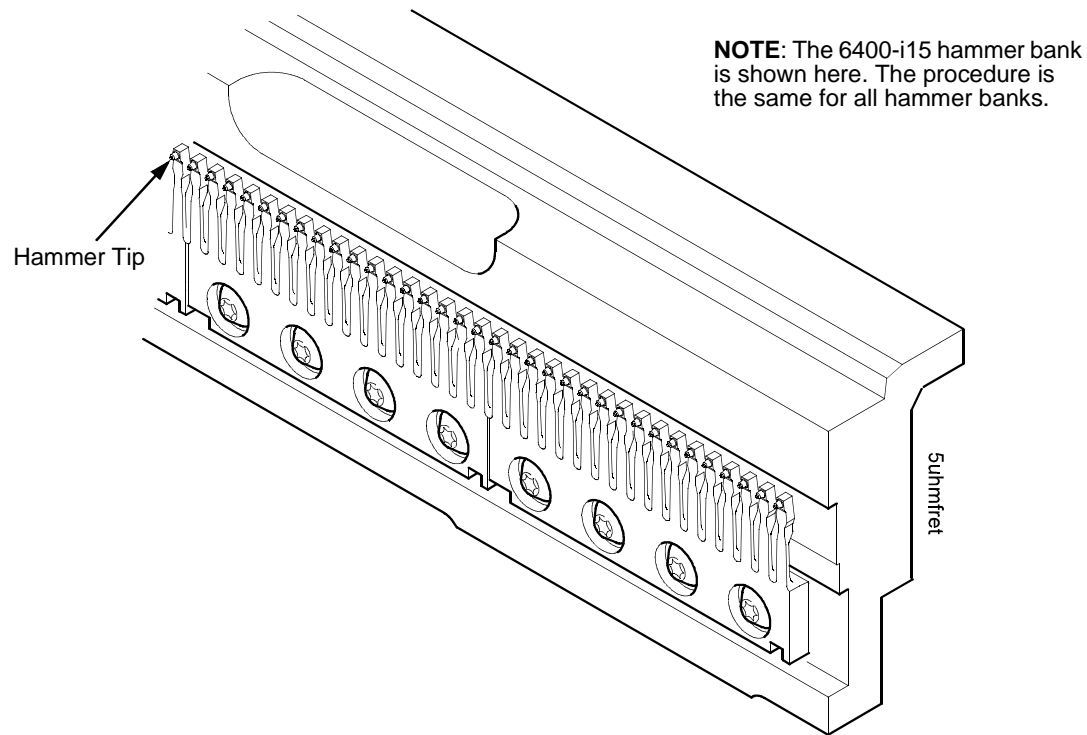

Figure 67. This figure shows a hammer tip for cleaning.
8. Using a stiff, non-metallic brush (such as a toothbrush), gently brush the hammer tips to remove lint and ink accumulations. (See Figure 67.) Vacuum up any residue.